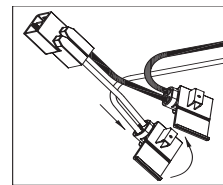

Figure 2
- Remove orange plug from the hardware kit bag. Pair the wires by color. Insert both into the red connector. Squeeze the metal U shaped fastener firmly. Flip the cover over to insulate the connection (See Figure 2).